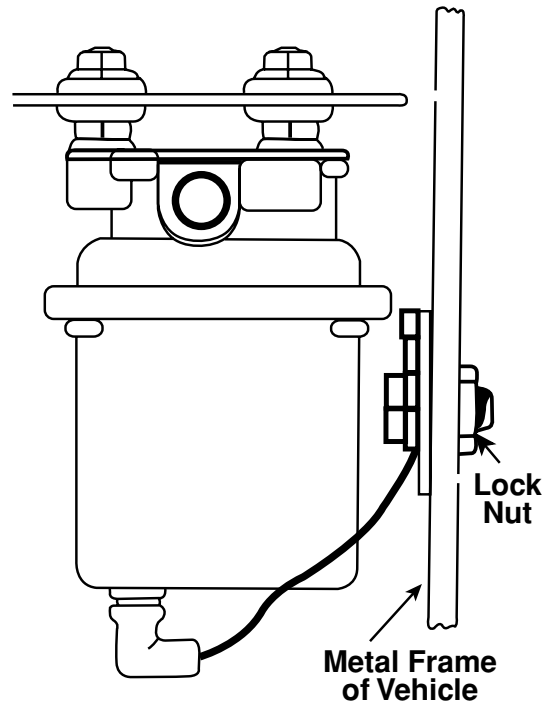

Fig. 1
3. Select the best location along the fuel line, away from heat and road splash, and as close to the fuel tank as possible. It is recommended that pump be mounted on the frame, never more than 24 inches above bottom of gas tank. MOUNT PUMP WITH ELECTRIC TERMINAL POINTING DOWN AS SHOWN. (See Fig. 1) For safety reasons and improved performance, DO NOT MOUNT PUMP IN TRUNK. Cut out section of fuel line as desired to make an easy installation.
4. Use mounting bracket as a template to drill two 1/4" holes in frame. Position pump on bracket as indicated in Fig. 1. The "IN" port of pump must be connected to the line running from gas tank. Push rubber grommet in appropriate holes. Push pump studs through rubber grommet, using a flat washer on each side of the rubber grommet, and tighten down evenly with lock washers and nuts.
3. Select mounting location on the frame or other firm body member no more than 24" above the bottom of the fuel tank, away from all moving parts, exhaust system, and excessive road splash. Do not mount the pump in the trunk. It is imperative that a good quality in-line filter be used on the inlet side of the pump (between the fuel tank and the pump). (See Figure 1.) A new filter is supplied with this pump.